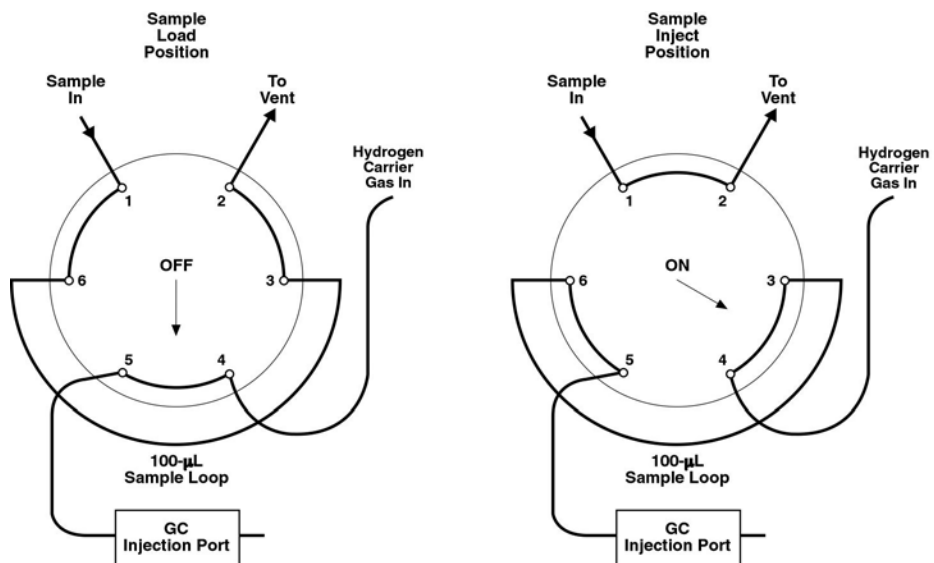

Figure A1
1. Connect the sample or calibration blend cylinder to the sample inlet (Figure A1) and purge the sample loops with the gas to be analyzed.